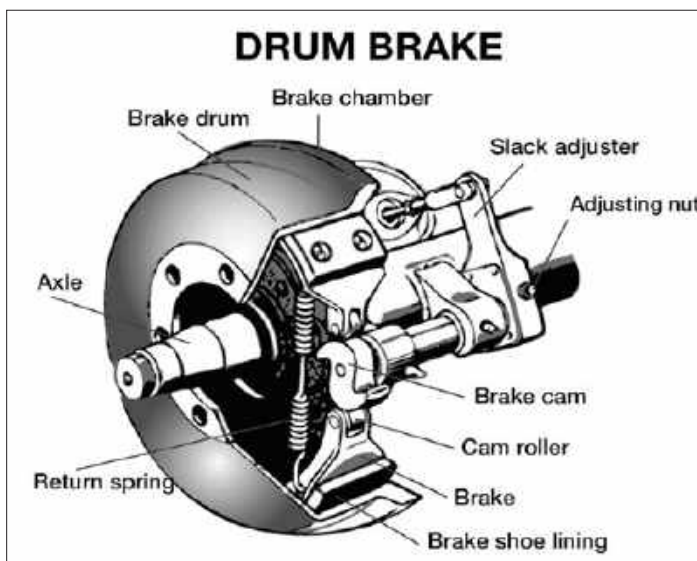

Figure 5.2
**S-cam Brakes.** When you press the brake pedal, air is let into each brake chamber. Air pressure forces the pushrod out of the brake chamber, moving the slack adjuster, thus twisting the brake camshaft. This turns the s-cam (so called because it is shaped like the letter "S"). The s-cam forces the brake shoes away from one another and presses them against the inside of the brake drum. When you release the brake pedal, the s-cam rotates back and a spring pulls the brake shoes away from the drum, letting the wheels roll freely again. See Figure 5.2. Most S-cam brakes are self-adjusting but some require manual adjustment.